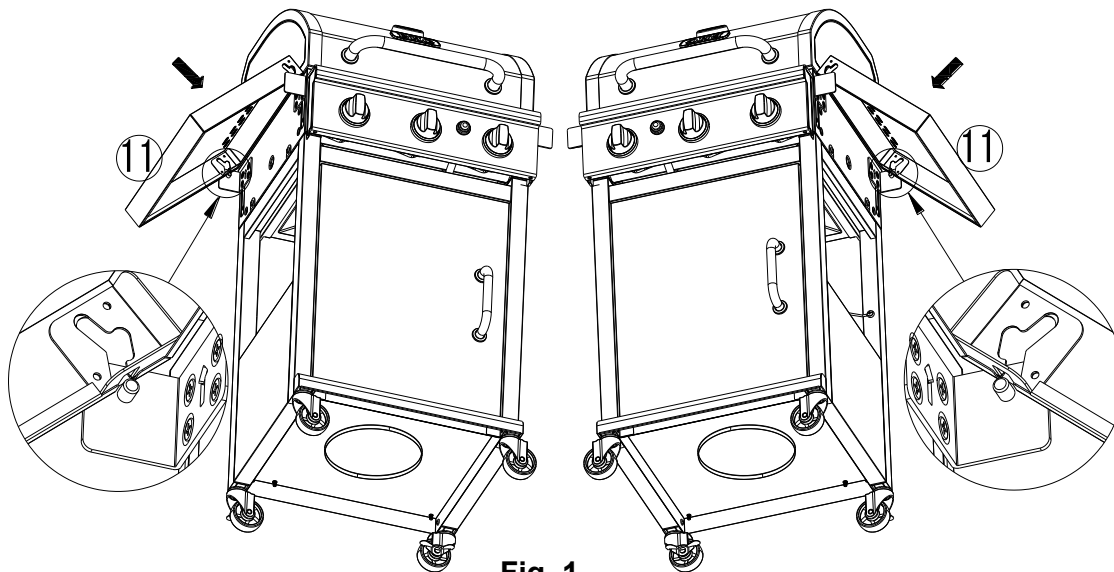
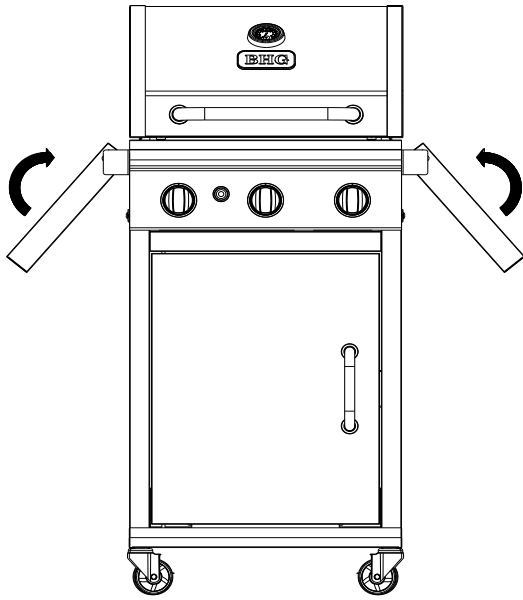

Fig. 1
Fig. 2
9. Pull out the hose clip hook (30) and secure the hose into the hook.
10. Attach door (16) to the cart.
11. Hang Side Shelf Assembly (11) by aligning the slots into side table supports (See Fig. 1). Lift the side shelf and slide it into the right position as per Fig.2 shows. Press the side shelf down until it is fully fastened in place (See Fig.3).